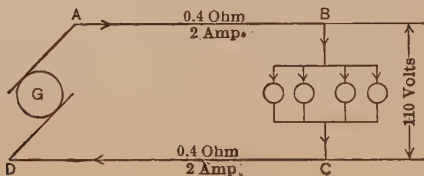

FIG. 55.
**First**, we find the current distribution throughout the whole circuit and mark it upon the diagram as in Fig. 55.